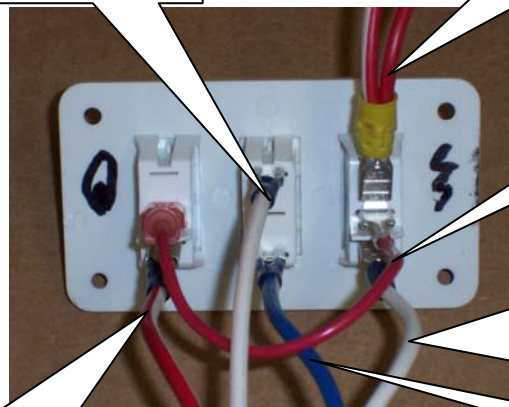

Fig. 2
Step 2 Remove the switch and verify the wires are attached to the switch as per Fig. 2.